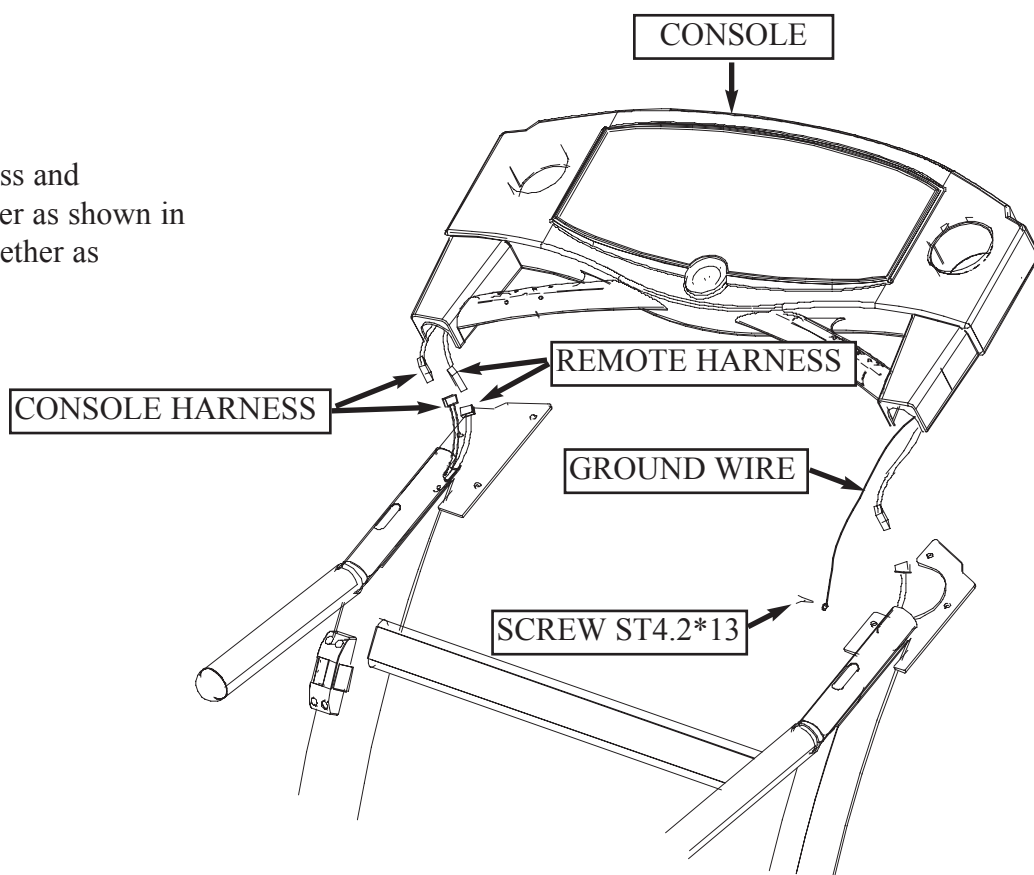
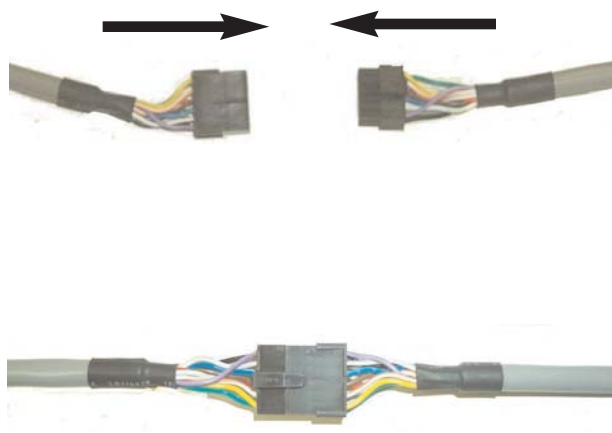

Figure 7: Console Wire Connections
Figure 8: Console Harness Connection
8. Connect the Console Harness and Remote Speed Harness together as shown in Figure 7. Connectors snap together as shown in Figure 8.
9. Connect Ground Wire to grounding screw located on the side of the Upright Assembly using Screw ST4.2*13 (Qty. 1) as shown in Figure 7.